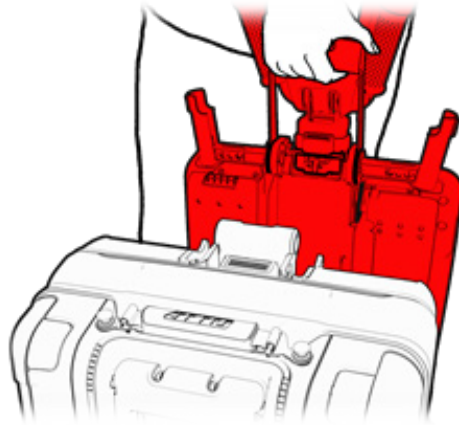

Figure 52
4. Move the front chassis from the handlebar and separate from the back chassis (see Figure 52).